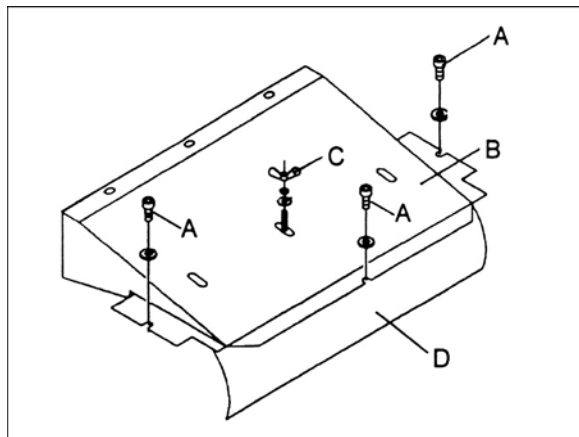

Figure 14
2. Remove screws (A, Figure 14) securing the dust hood.
3. Remove dust hood (B, Figure 14) and dust chute.
4. Loosen three wing nuts (C, Figure 14) and slide the curved infeed chip deflector (D, Figure 14) out of the way.